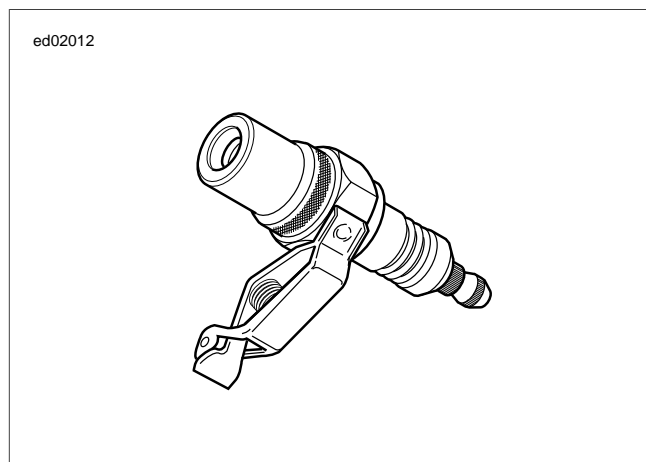

Figure 4-15. Spark Tester
- b. See Figure 4-15. Attach cable to SPARK TESTER (Part No. HD-26792). Clip tester to cylinder head bolt.